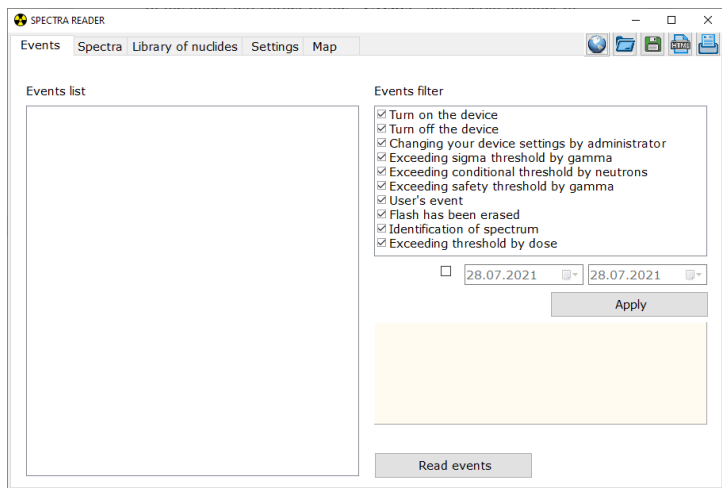

Figure 37 – "**Events**" tab
- **List of events** - this field displays the list of events downloaded from the device during the last readout session (Fig. 37);